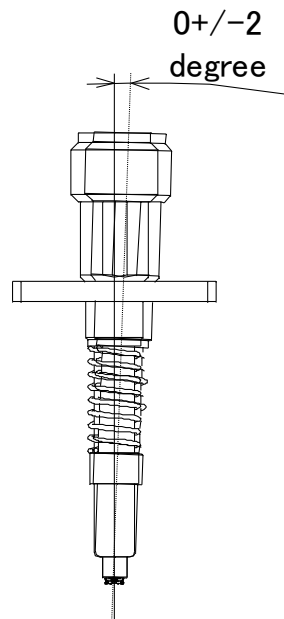

Figure.4 Probe Shape Operation Manual for Auto Measurement probe (MM126715)
3.3 The slant angle tolerance of probe against MM8830-2600. (Figure 4)